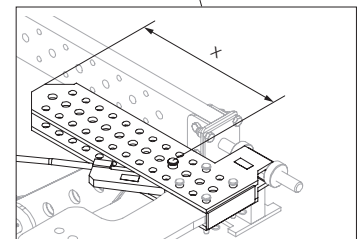

Fig. B2.14b
- The installation position x and length of the tie rods may vary depending on the project. (Fig. B2.14b)